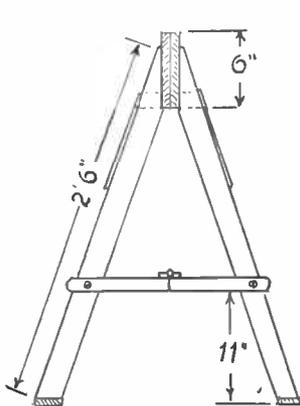
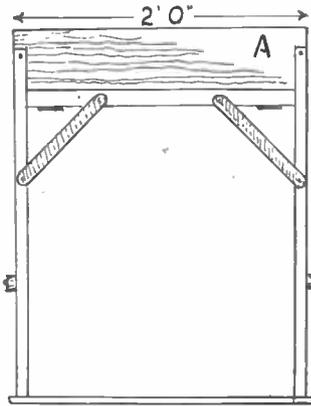
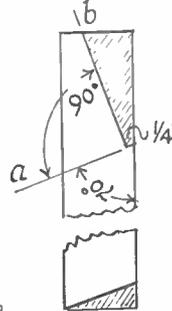

Fig. 1
Fig. 2
Fig. 3
End and front elevations are shown at Figs. 1 and 2, giving useful dimensions. First cut the top boards (A) (Fig. 2), to which the wringer will be clamped. Two are required. They should be quite flat to meet evenly along their whole length.
Cut the four lengths of wood for the legs to the length given (Fig. 1). These must be trimmed at top and bottom, as shown in Fig. 3. Mark out as follows: 5ins. down from the top, with a bevel set to the angle of 70 degrees, mark a